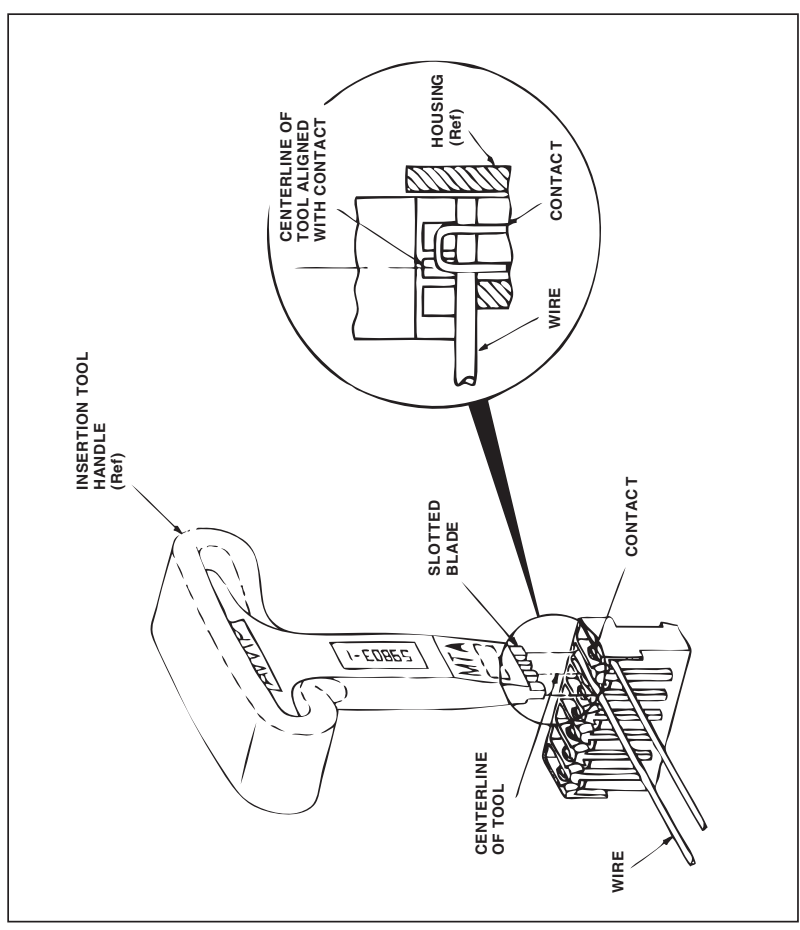

Fig. 2
- 3. INSERTION PROCEDURES (Figure 2)**
3. Place appropriate tool on wire over contact so that the centerline of the tool matches the contact. The tool must be positioned as shown in Figure 2.